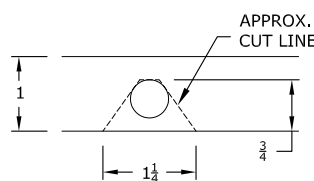

FIGURE A3
8. **Modify bed flange.** Cut a notch in the bed flange just above the frame in the passenger side rear wheel. Locate the  $\frac{7}{16}$ " hole in this flange above the axle and enlarge the hole by removing the metal below the hole so that a notch is created, See figure A3 & A4. This will allow the rear cross member to be installed.